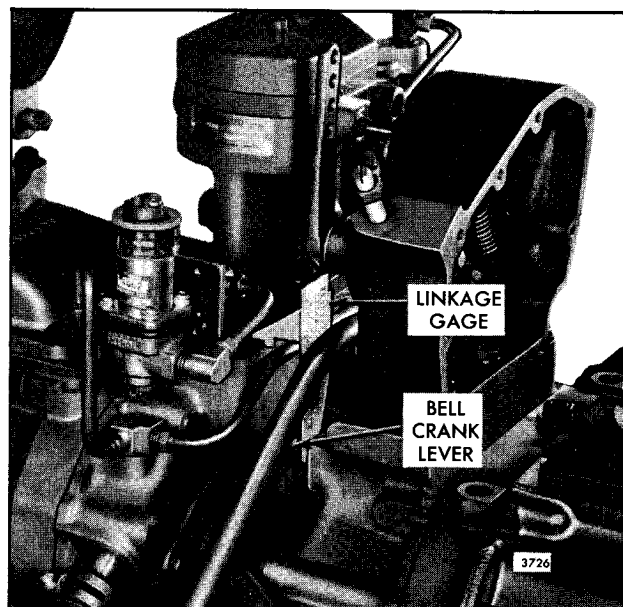

Fig. 4 - Linkage Gage Placed on Governor
4. Place linkage gage J 21351 in position so the pin in the gage enters the hole in the bell crank lever and the tangs on each side of the gage rest on top of the governor drive housing cover (Fig. 4). The gage holds the linkage in the full-fuel position while the injector racks are being adjusted.